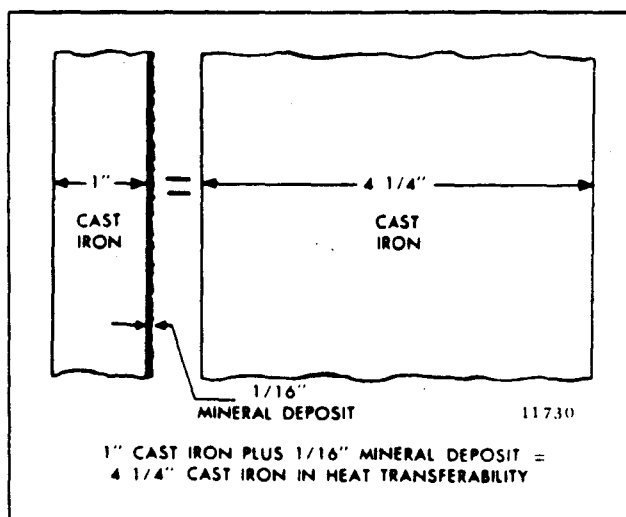

Fig. 1 - Heat Transfer Capacity
*The importance of a properly inhibited coolant cannot be overstressed.* A coolant which has insufficient inhibitors, the wrong inhibitors, or-worse-no inhibitors at all invites the formation of rust and scale deposits within the cooling system. Rust, scale, and mineral deposits can wear out water pump seals and coat the walls of the cylinder block water jackets and the outside walls of the cylinder liners. As these deposits build up, they insulate the metal and reduce the rate of heat transfer. For example, a 1/16" deposit of rust or scale on 1" of cast iron is equivalent to 4-1/4" of cast iron in heat transferability (Fig. 1).
Chromate inhibitors should *not* be used in antifreeze solutions. Chromium hydroxide, commonly called "green slime", can result from the use of chromate inhibitors with antifreeze. This material deposits on the cooling system passages, reducing the heat transfer rate resulting in engine overheating (Fig. 1). Engines which have operated with a chromate-inhibited water must be chemically cleaned before the addition of antifreeze. A commercial heavy-duty descaler should be used in accordance with the manufacturer's recommendation for this purpose.